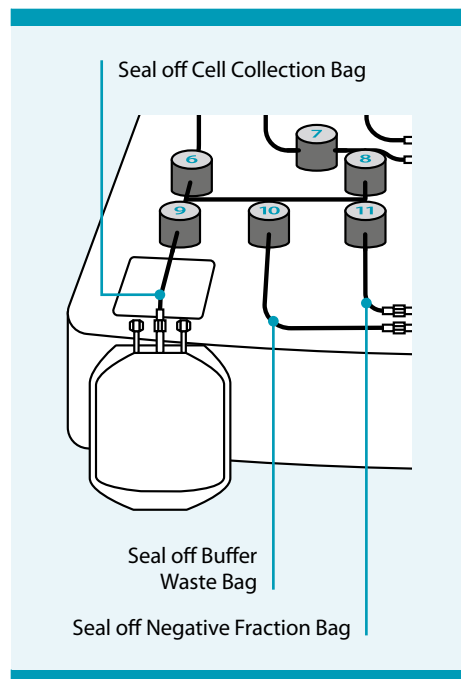

Figure 7.22: Disconnect bags
2. Clamp or seal the tubing above the luer lock connecting the Cell Collection Bag to the tubing set (see Figure 7.22).